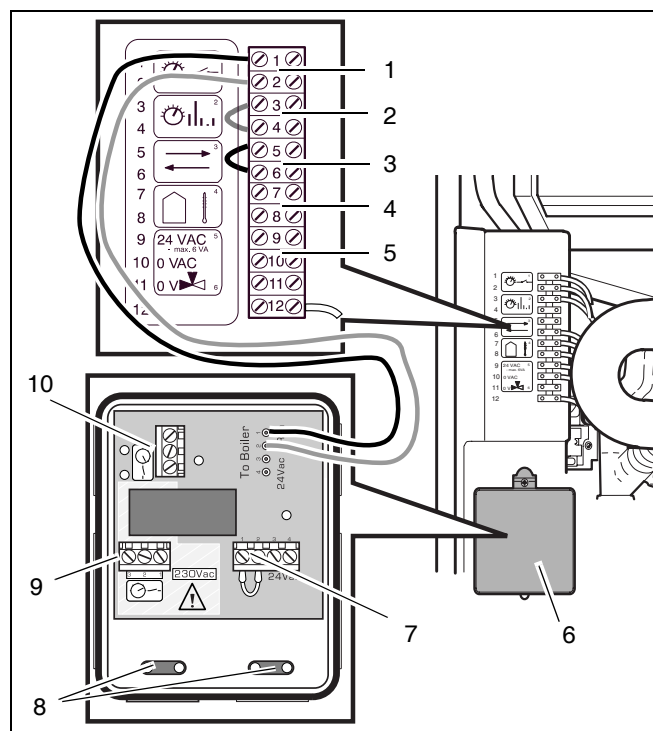

fig. 22 Connecting the control unit
Connect the three-way valve to terminals 9 and 11 of the terminal strap (fig. 22, item 5).
- Remove the bridge in terminal 3-4 (fig. 22, item 2) and connect the control unit to the terminal strap.
- Remove the wire in terminal 1-2 (fig. 22, item 1).
- Remove the cover of the RTH converter (fig. 22, item 6).
- Lead the control device wire through the cable lead (fig. 22, item 8).
- Fix the wire to terminal 1 and 2 of the 230 Volt connection (fig. 22, item 9).
- Fix the wire to terminal 1 and 2 of the volt free connection (fig. 22, item 10).
Key to fig. 22: